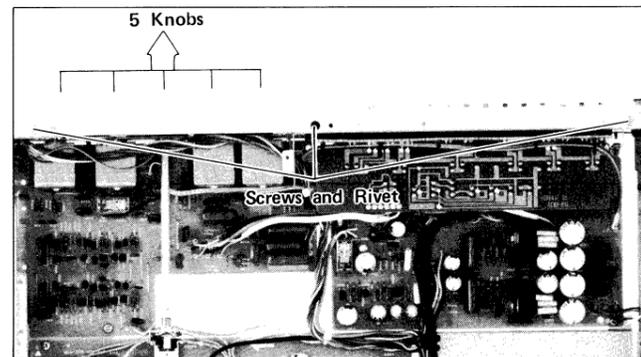

Figure 3-3
1. Pull out the 5 knobs (Bass control/Treble control/Function selector/Balance control/Volume control) from the front panel. (Refer to Figure 3-3)